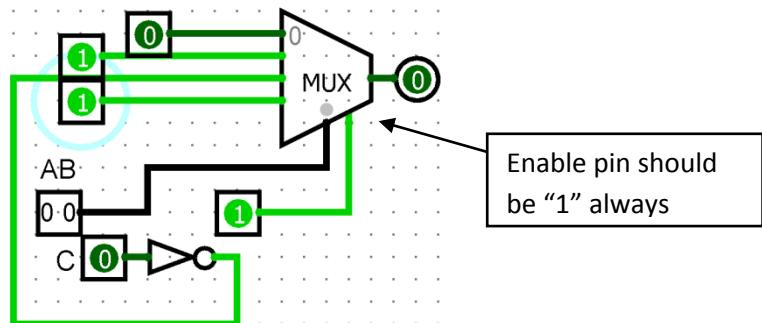

Fig 7.2 MUX Logisim Implementation
1. Connect the given SOP function for the given example in Multiplexer and Decoder as shown in the figure 7.2 and 7.4 respectively.